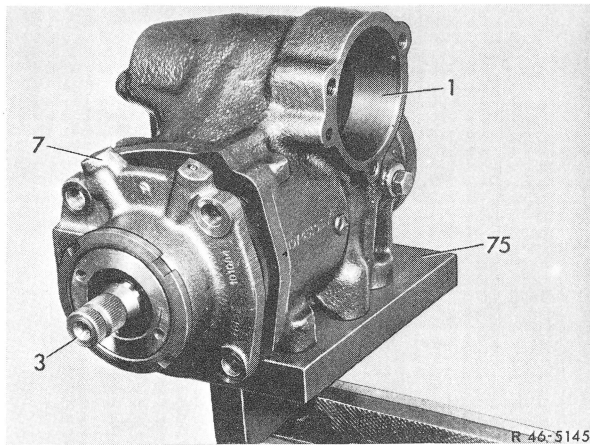

Fig. 11
10 Unscrew hex. bolts attaching bearing cap (7) to steering case (1) (Fig. 11).